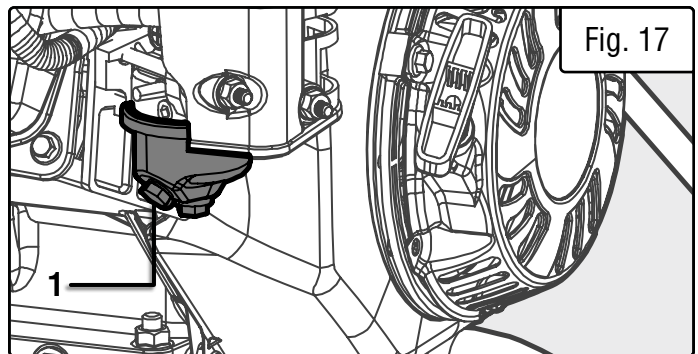

Fig. 17
2. Prepare an approved gasoline-storage container. Position it underneath the carburetor drain screw (Fig. 17 - 1).